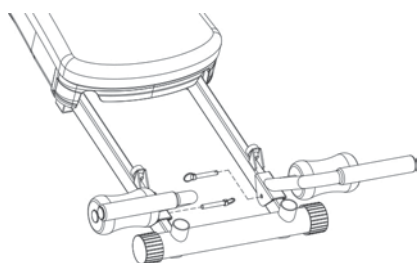

Fig. 4
3. Insert the 2 Short Hitch Pins through the holes on the Wing Attachment Brackets and the hole on the Rails, as shown in Fig. 4.